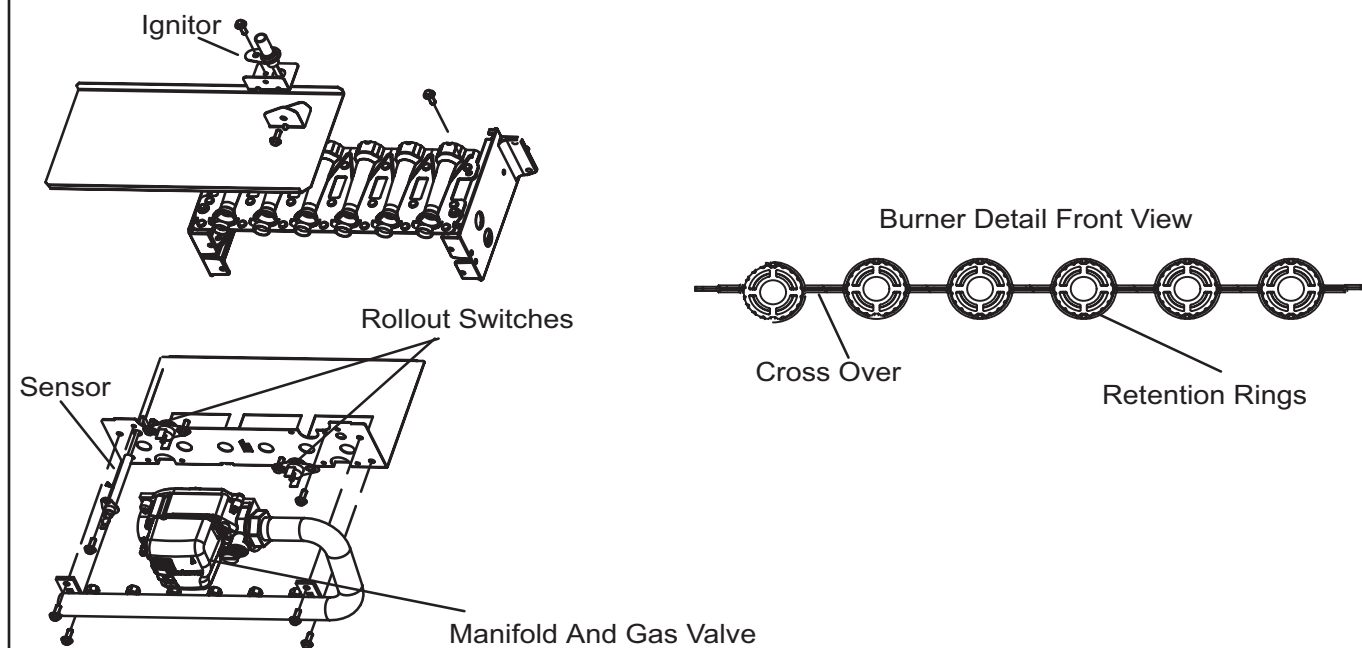

FIGURE 39
- 4 - To clean burners, run a vacuum cleaner with a soft brush attachment over the face of burners. Visually inspect inside the burners and crossovers for any blockage caused by foreign matter. Remove any blockage. FIGURE 39 shows burner detail.